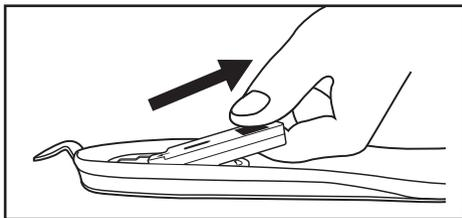

Figure 11
3. Gently pull the battery in a straight line away from the Insole (Figure 11).